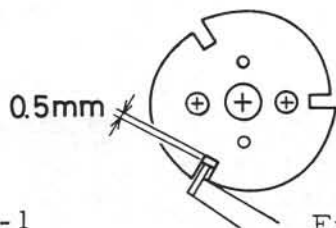

Fig. 47-2
At this time, the gap between the SW contact wire and the Insulation collar (I203) should be remained as shown in Fig. 47-2.
2. Install the 0.5mm thickness gauge as shown in Fig. 47-2. But in service you can use a piece of 0.5mm thickness washer or equivalent.